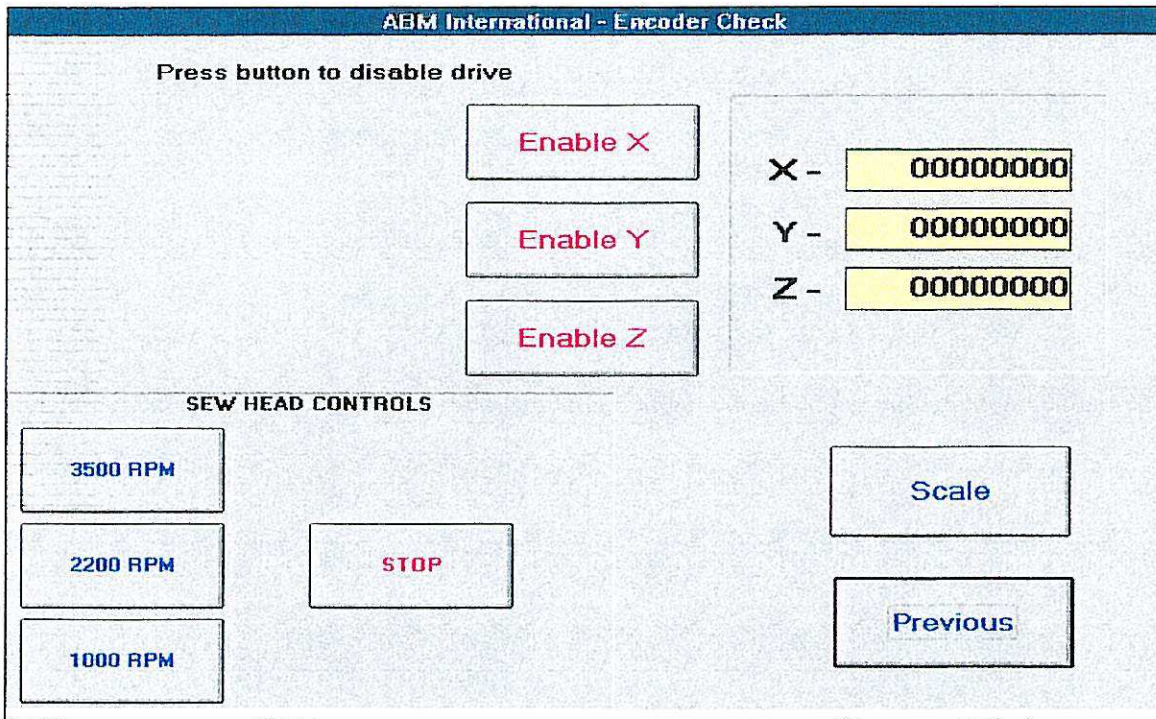

Figure 4.24
- A. Press the "Encoder check" key and the encoder check screen will appear. See *Figure 4.24*.